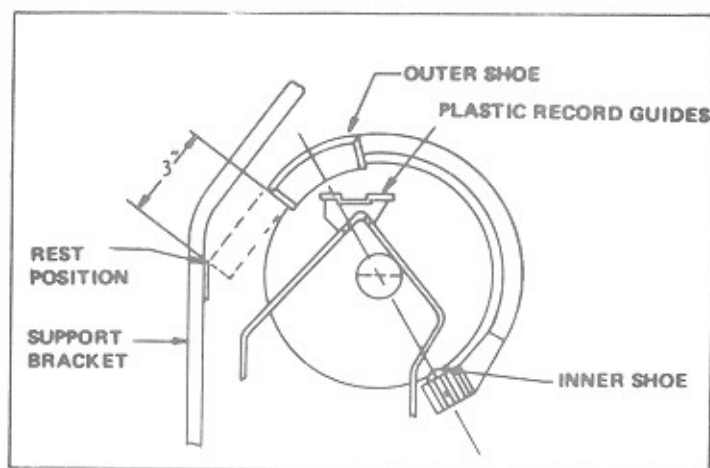

Figure 3-15. Magazine And Transfer Arm Position
2. Using a 5/32-inch Allen wrench in end of transfer motor shaft, turn motor shaft clockwise until gripper bow lifts record out of magazine, and outer shoe is approximately 3 inches from its rest position on back support (See Figure 3-15.). In this position, a center line from the inner shoe through the center of the outer shoe will pass through the center of the plastic record guide on the magazine.